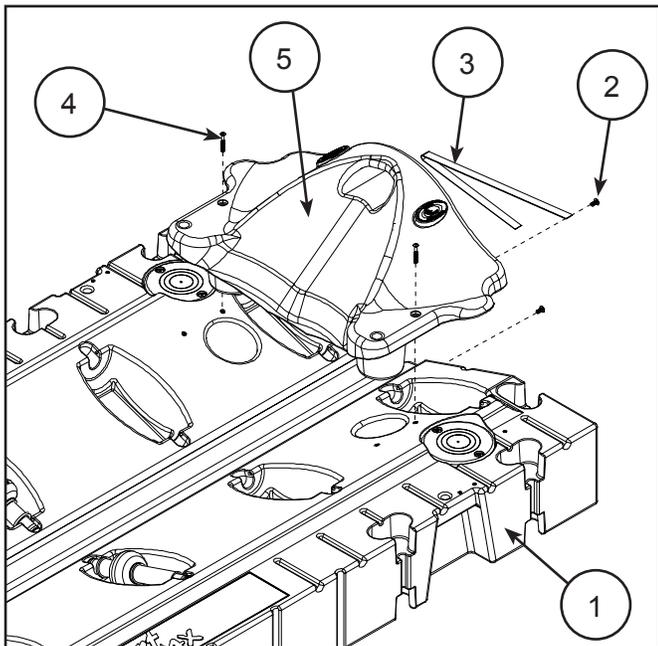

Figure 1.
- The half bow section (206027BS-\*\*) is an economical way to protect your PWC, (Figure 1). To install, the half bow section is inserted into the holes located near the front of the entry section. Push the half bow section down firmly into the holes and install two (2) bolts (Item 4). When the half bow section is fastened in this way, it will not require Item 2 or Item 3, (Figure 1).
**Step 4:** The half bow section (206025BS-xx) is required for use between PWC's. The half bow section is assembled at the front of the entry section as a removable stop between the PWC's (refer to Page 8, Figure 1). The half bow section is tethered using a nylon tether (Item 3) and two (2) bolts (Item 2). When used on an in-line port application Item 2 and Item 3 are required and the four (4) bolts (Item 4) are omitted.